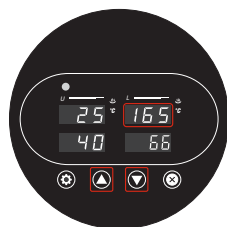

Fig. 4
4. Press Up **11** or Down **12** buttons to select the desired temperature (Fig. 4). The selected temperature is flashing on the display.